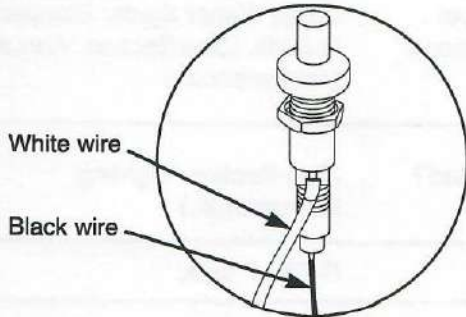

Figure 18
- Check that both the white and black ignition wires are attached properly. Figure 18.